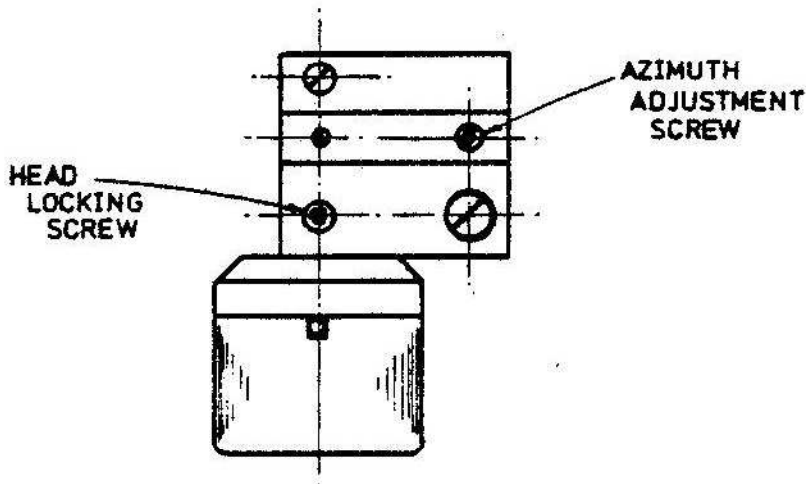

FIG. 6
7.2.2 Play the test tape. The first section of tone enables the correct CAL level to be set. Adjust LO LEVEL RV2 on the replay board to give a reading of +16dBm on the output for a mono head and +12dBm for a stereo head. With the first 1kHz section still playing adjust the azimuth to peak the output level. RV2 may now need to be readjusted to the specified levels above. To set the azimuth slacken the locking screw and rotate the adjusting screw until the output level peaks. Do not overtighten the locking screw. A light lock is sufficient. Fig. 6 shows the adjustment points.